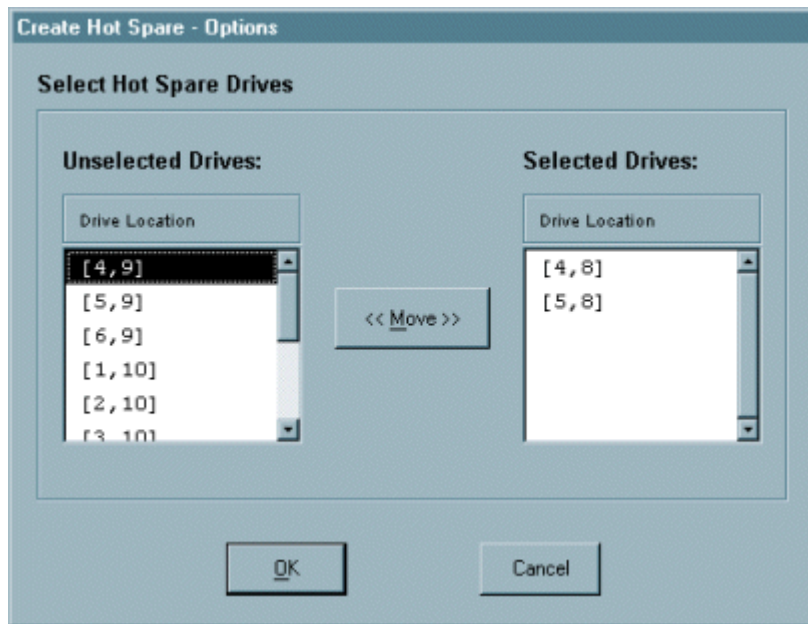

Figure 42. Creating a Hot Spare - Options
3. Select **Options**, which will result in the display shown in Figure 42 on page 80 from which you can choose which drive(s) will become hot spares.